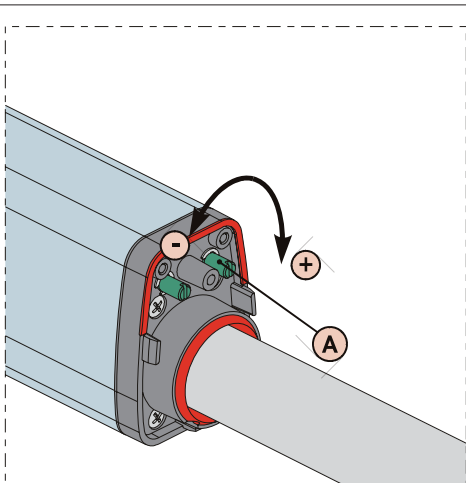

Fig. 19
- 2) To adjust the **closing limit switch FCC** turn the adjusting screw clockwise, Fig.19 ref.A, to increase the rod stroke and counter-clockwise to reduce it.